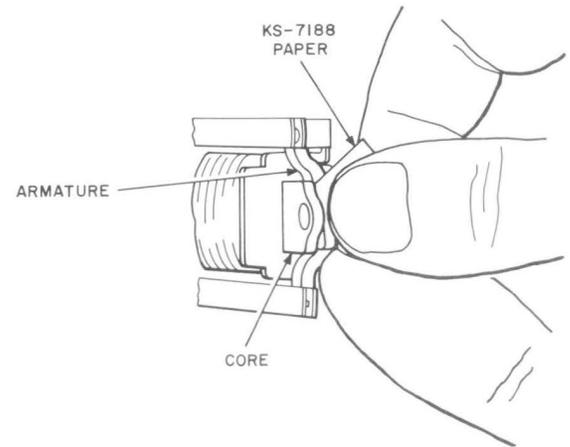

Fig. 40—Method of Cleaning Armature and Core on A-, AB-, E-, EA-, F-, H-, R-, and T-Type Relays
7.03 Armatures and Cores of A-, AB-, AF-, AG-, AJ-, AK-, AL-, AM-, 286-, 287-, 288-, E-, EA-, F-, H-, R-, T-, U-, UA-, UB-, and Y-Type Relays: Insert KS-7188 paper between the armature and the core (or between the armature and the tip of the adjustable stop pin on F-type relays). Press the armature manually toward the core so the paper is held with a slight pressure between these parts and then withdraw the paper. Examine the paper for evidence of dirt. Using a clean piece of paper each time, repeat the operation until the paper shows no evidence of dirt when it is removed (see Fig. 40, 41, 42, and 43).